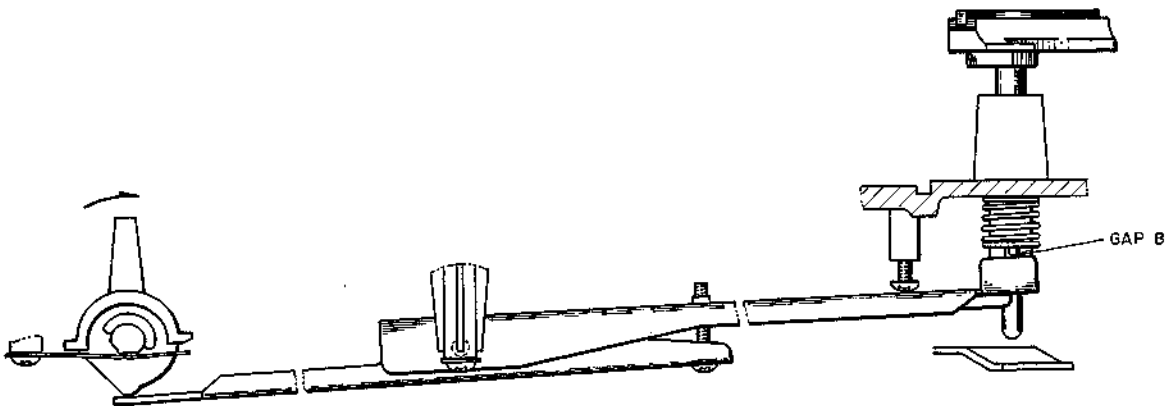

Fig. 16
2. Next operate the auto return (turn the main gear by hand) and raise the arm lifter. With the elevation control at  $\nabla$ , adjust screw (b) at exactly the point where the gap (B) between the shaft pin and the elevation lever (A) disappears. (Refer to Fig. 16).